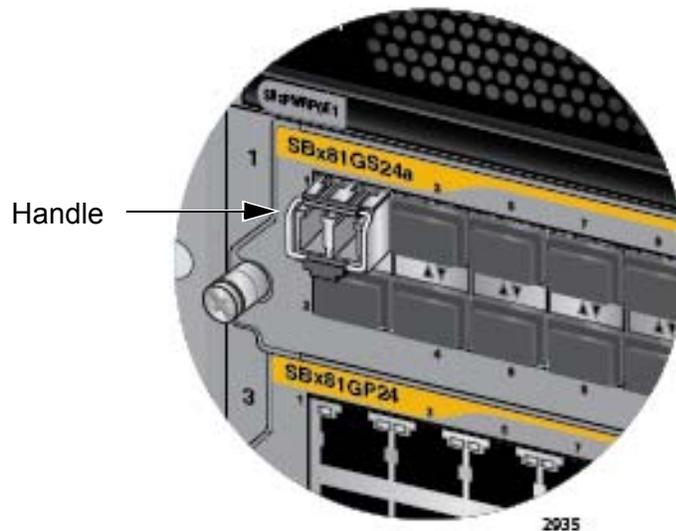

Figure 86. Verifying the Position of the Handle on the SFP Transceiver on the AT-SBx81GS24a Line Card
6. Before connecting the cable, verify the position of the handle on the SFP transceiver. The handle should be in the up position if the transceiver is in the top row on the line card, as shown in Figure 86, or the down position if the transceiver is in the bottom row.